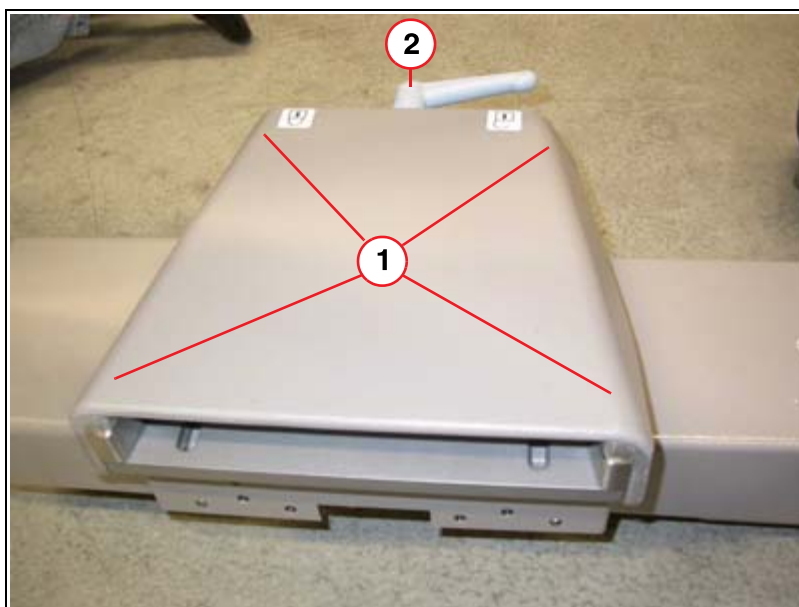

Fig. 12: Upper part
- Position the top part of the docking bridge and secure it (1/Fig. 12 / p. 16).
- Test the inward movement and locking of the Vario. The latch must lock securely. Correction is performed using the black Allen screw in the latch (2/Fig. 12 / p. 16).